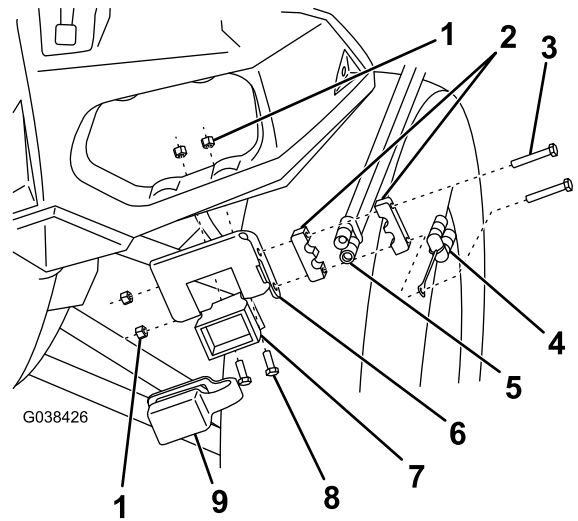

Figure 6
2. Mount the vehicle-side, wire-harness plow connector to the left side of the front bumper using the control-harness mounting-bracket and 2 cap screws and self-locking nuts (Figure 6).
3. Mount the power/ground connector to the control harness mounting bracket (Figure 6).